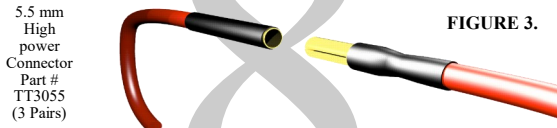

FIGURE 3.
3) Choose a wiring method for the motor and battery leads. Direct wiring uses no plugs and provides the best connection between the motor and the ESC. You can use Tekin 5.5mm Hi-Power bullet connectors (TT3055, Fig 3.) for easy motor removal. Battery connector choice is up to you, use the female plug on the battery and the male on the ESC and double check the polarity.